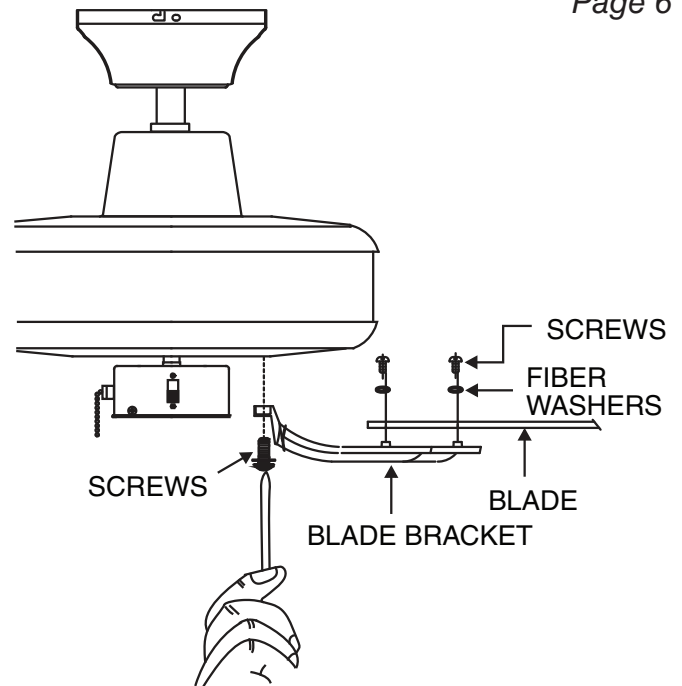

FIGURE 12
1. Attach the blade to the blade bracket using the screws and fiber washers as shown in Figure 12. Start screw into bracket. Repeat for the two remaining screws.
3. Fasten blade assembly to motor using the screws supplied. (Fig. 12)